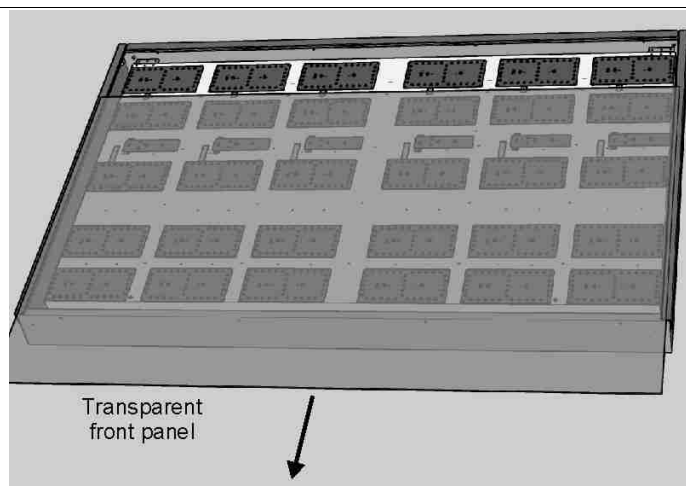

Fig. 13: Removing the front panel
3. Remove the transparent front panel (Fig. 13).